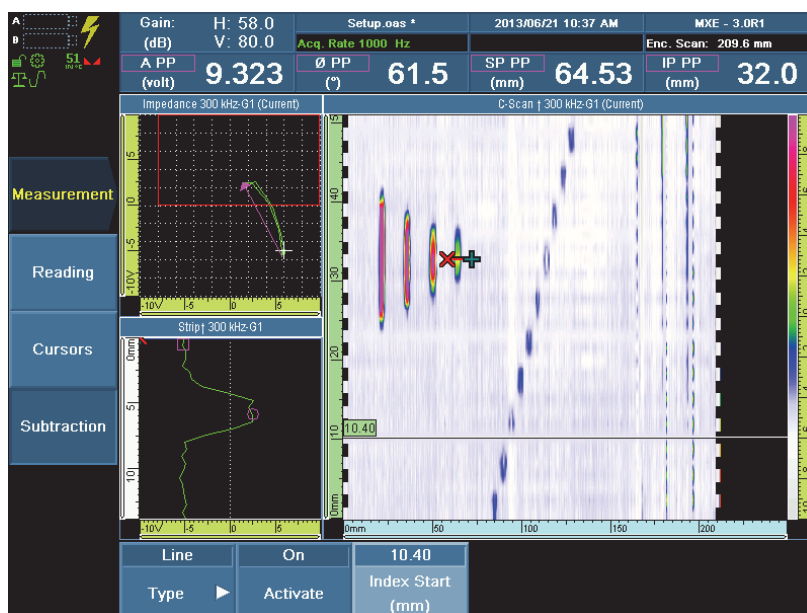

Figure 12-2 Horizontal subtraction cursor
3. Select **Measurement > Subtraction > Activate = On**, and then press the Accept key to enable the cursor. Selecting **Activate = Off** will disable the cursor (see Figure 12-2 on page 217).